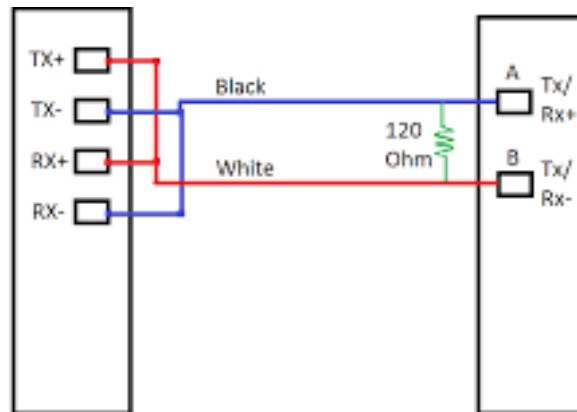

Figure 7 2-Wire RS485 wiring diagram
- User can refer figure 7, if 4-wire to 2-wire RS485 conversion is required.